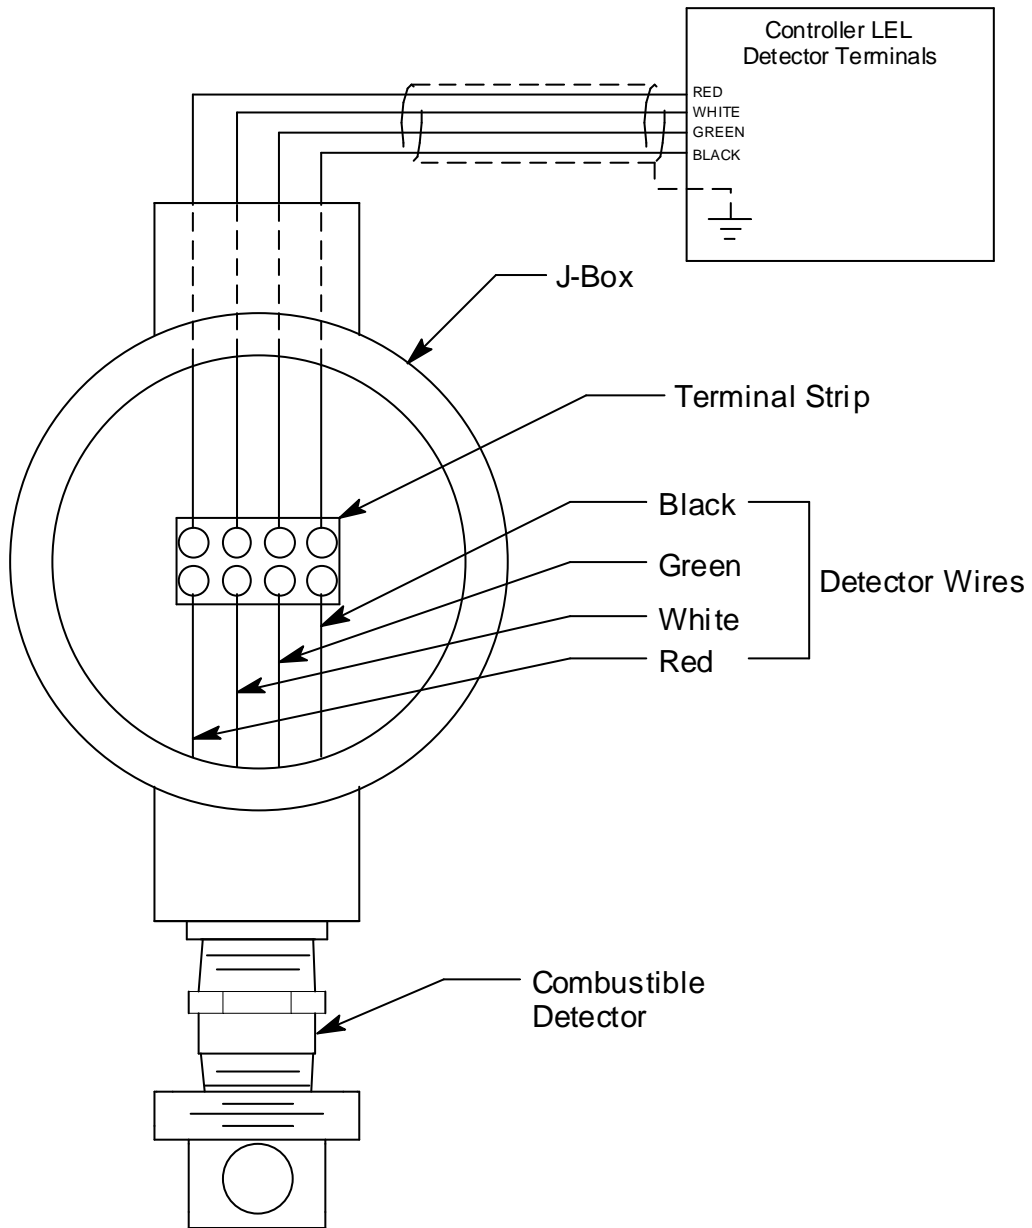

Figure 3: Wiring the Combustible Gas Detector to a Controller
If the detector is mounted directly to a controller, it is normally factory wired. Confirm that the detector's wires are connected to the appropriate controller detector terminals and skip to "Start Up" on page 6. See Figure 3, the controller operator's manual, and the controller's detector head specification sheet for the 61-0140RK-05 detector for the wiring connections.
7. If the detector is installed directly on a controller, connect the detector leads to the appropriate detector terminal strip terminals. See Figure 3 for wiring to a generic controller. See the controller operator's manual and the controller's detector head specification sheet for the 61-0140RK-05 detector for wiring specific to your controller.
If the detector is installed remotely from a controller in a junction box, connect the detector leads to the terminal block the same way the old detector was wired (see Figure 3). See the controller operator's manual and the controller's detector head specification sheet for the 61-1000RK-05 detector to verify the connections to the controller are correct.